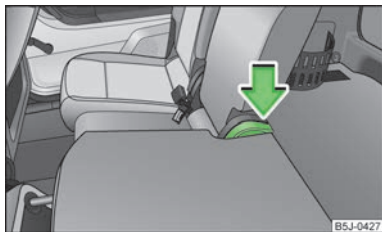

Fig. 43
- Press the lever » Fig. 43 and fold back the seat backrest. Check for yourself that the seat backrest is engaged by pulling on it.